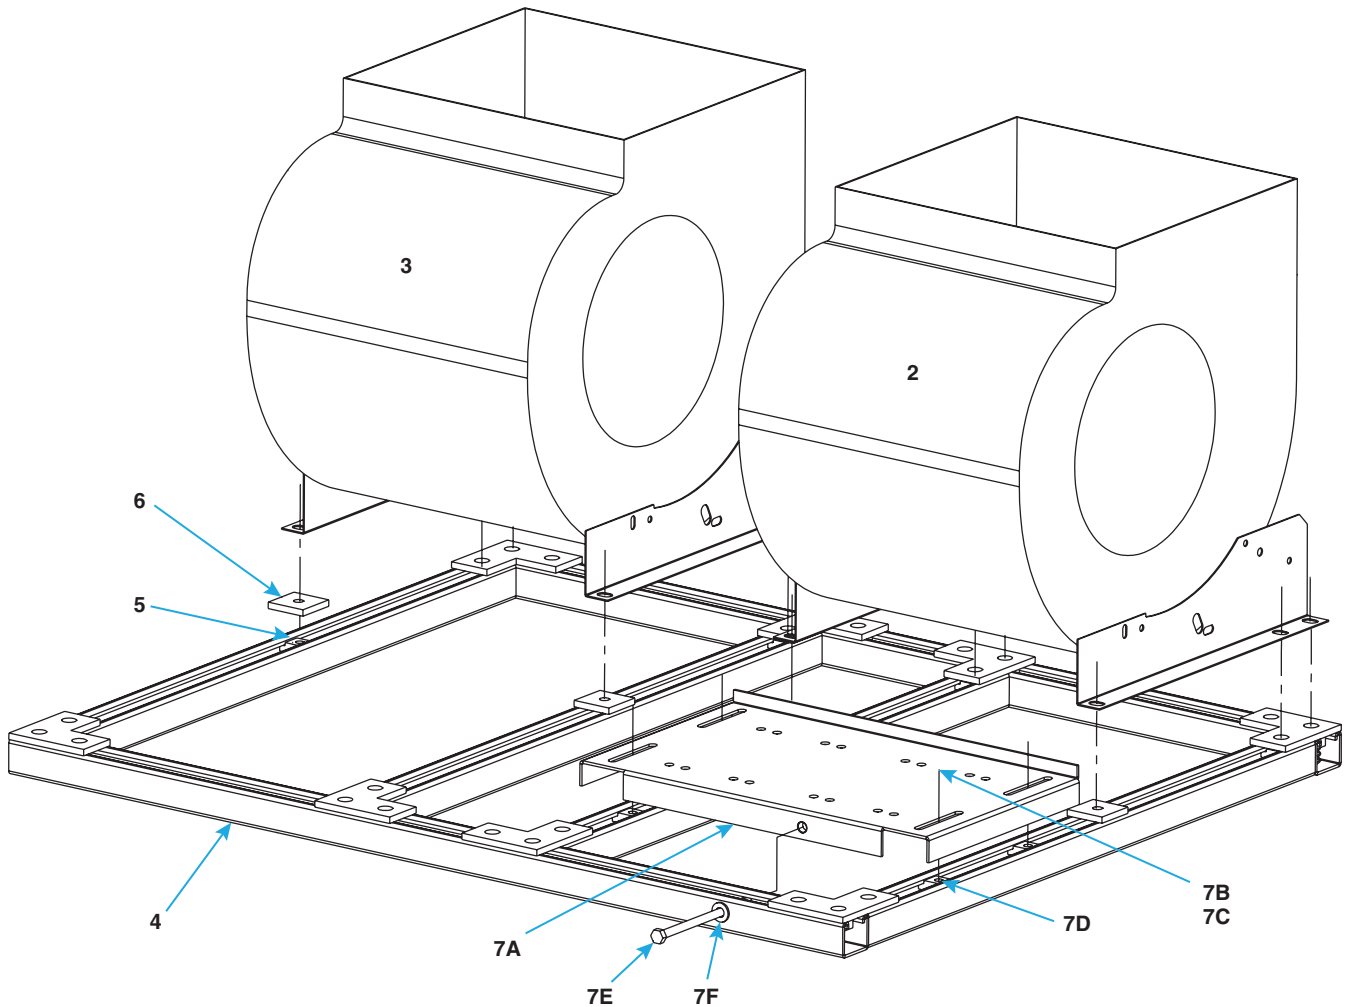

Figure 7. Typical Blower Components (Refer to Table 14)
- The assembly shown in Figure 7 is the strut base, dual blowers, and motor mounting plate for 2- to 5-HP belt-driven motors on unit sizes 250, 300, 350, and 400,